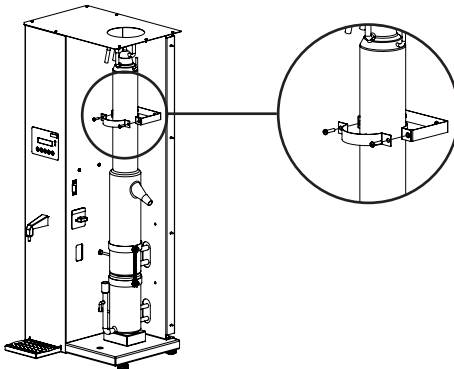

Fig 17.2
2. Secure the Secondary Boiler using the provided SS clamps and screws (fig. 17.2).